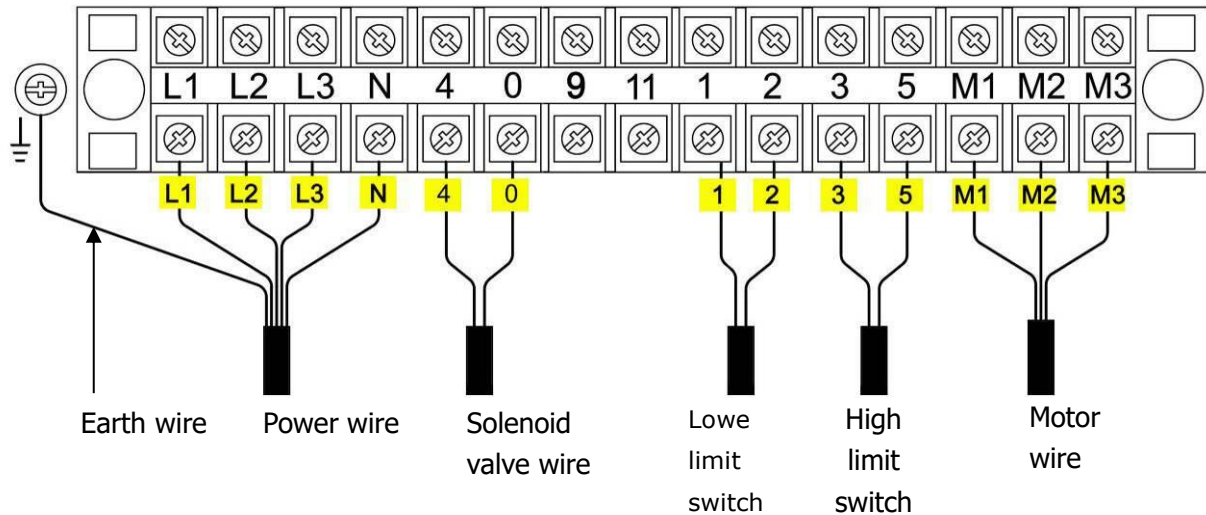

Fig.28
2.1 Wire connection diagram in the control box (See Fig. 28)